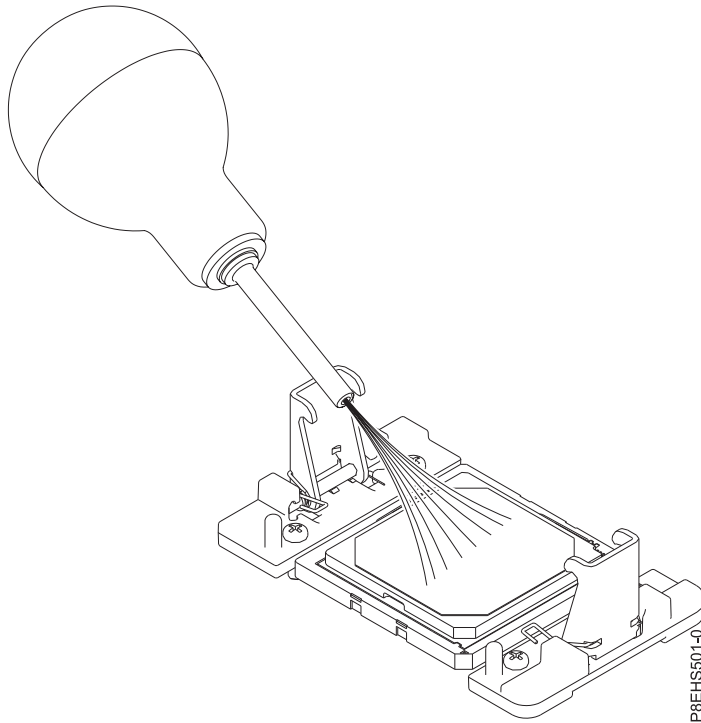

Figure 125. Removing dust and debris from the system processor module area
10. Remove dust and debris from the system processor module area. If dust or debris is present, use the supplied air pump (part number 45D2645) to clean the system processor module area. Blow small bursts of air from the center toward the sides of the system processor module as shown in Figure 125 on page 107. If your air pump is not assembled as shown in Figure 125 on page 107, fasten the tip onto the bulb.